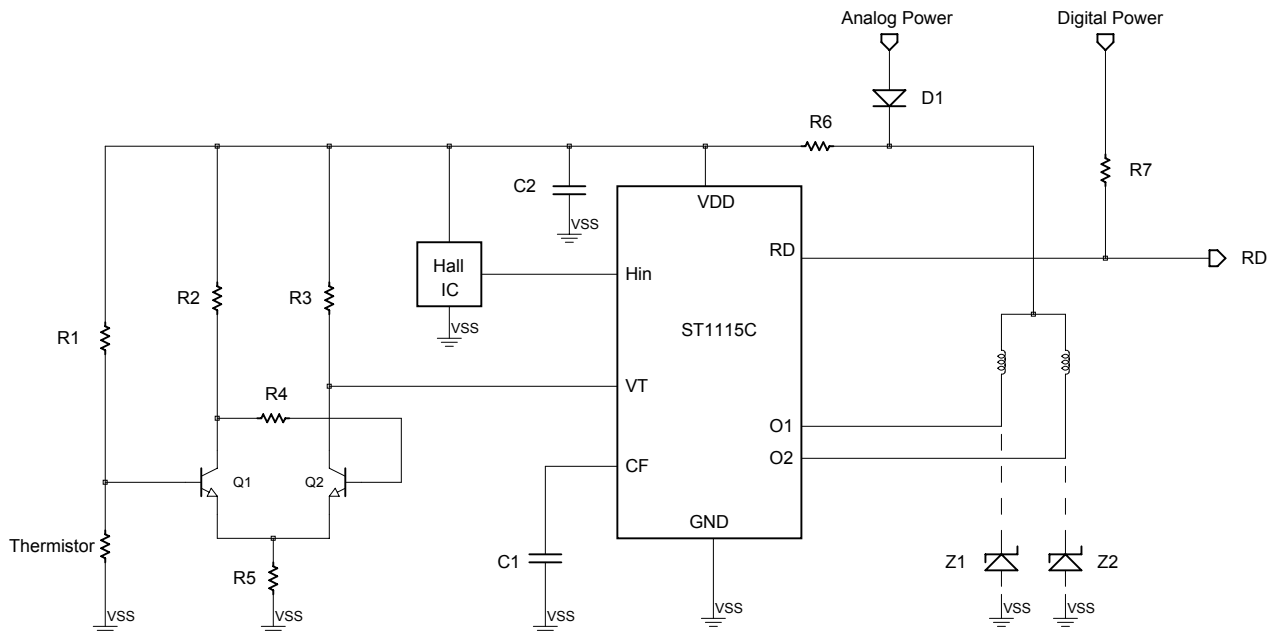
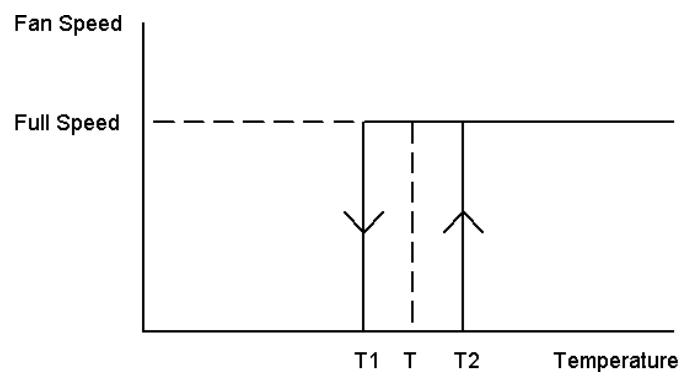

Figure 3. Temperature-control Fan Switch (where ST1115C is shown for illustration).
Figure 4.
2. **Temperature-control Fan Switch** —Refer to Figure 3.
(1) Figure 3 shows the temperature-control fan switch circuit, where the fan either stops or rotates at the full speed, depending on some temperature threshold. Figure 4 indicates the graph of the fan speed as a function of the temperature. The temperature threshold is  $T$  with the hysteresis  $T_2 - T_1$ .